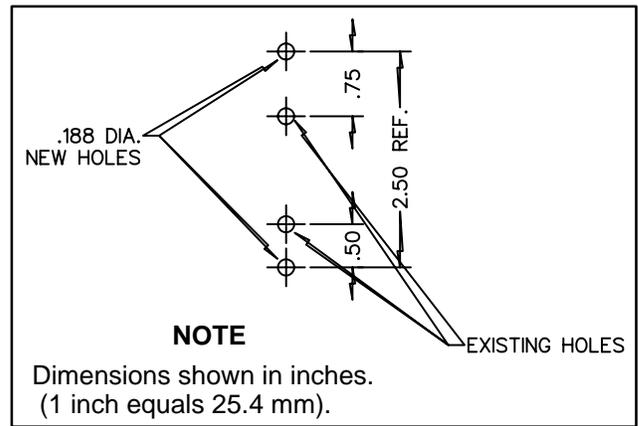

Figure 3. Relay Drilling Instructions
7. Drill two 0.187 in. (5 mm) dia. holes 2.5 in. (63.5 mm) apart to mount new relay. See Figure 3 for drilling instructions. Location should be as near as possible to old relay location.